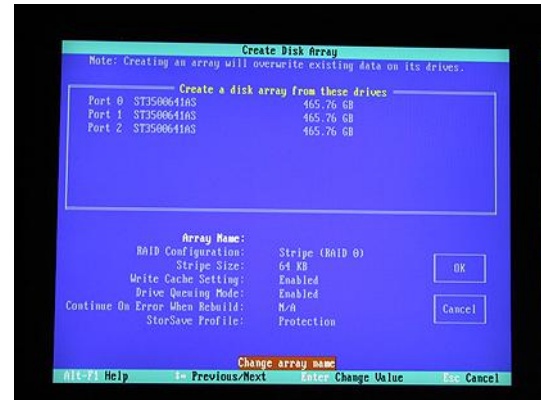

Figure 3-13
- 3) Ensure that the **Create Unit** item is still selected (the white box shown to the bottom left of the screen in Figure 2-12), and then press the <Enter> key to invoke the Create Disk Array screen (Figure 3-13).